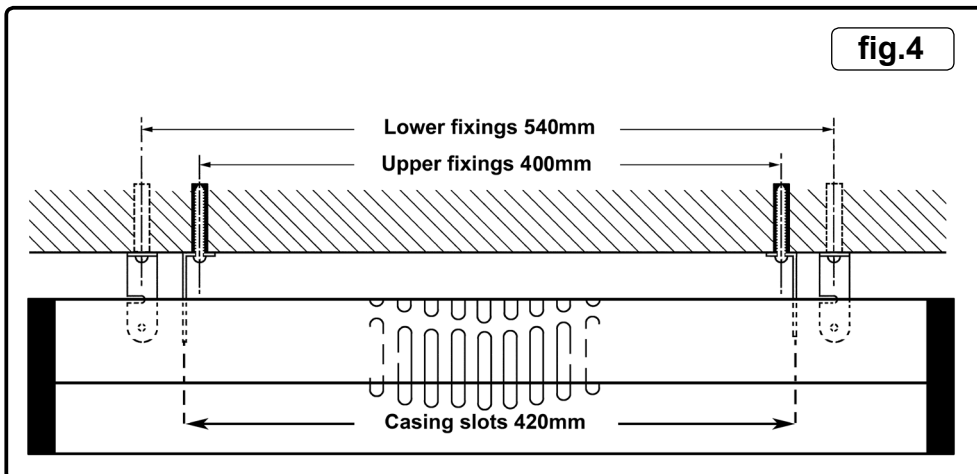
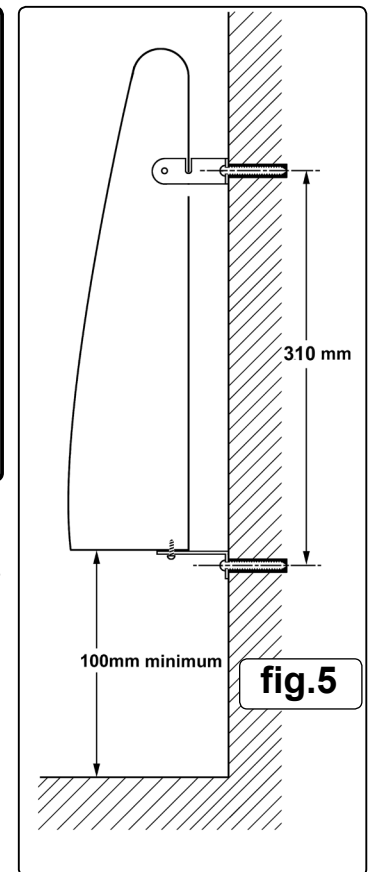
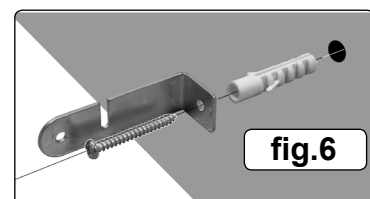

fig.4
fig.5
fig.6
- Wall mounting the heater.** The wall mounting kit consists of four wall mounting brackets as shown in fig.6. (two left hand and two right hand) and four 35mm fixing screws with wall plugs. Locate the heater close to a mains supply socket.
- Take the other pair of brackets and fix them to the wall with the wall plugs provided as shown in fig.6. The hanging slots should be facing upwards and the two brackets should be facing towards each other 420mm apart as shown in fig.4. The fixings should be at least 800mm above the floor to give a minimum clearance of 100mm between the bottom of the heater and the floor as shown in fig.5. When the heater is wall mounted the feet are not required.